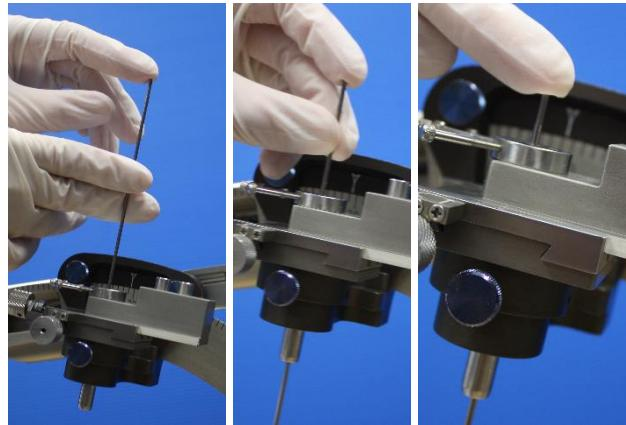

Figure 44: Inserting the Cannula through the Bengun Hole
13. Holding the cannula from the stylet collar, insert the cannula through the Bengun hole (*Figure 44*) and into patient's tissue.